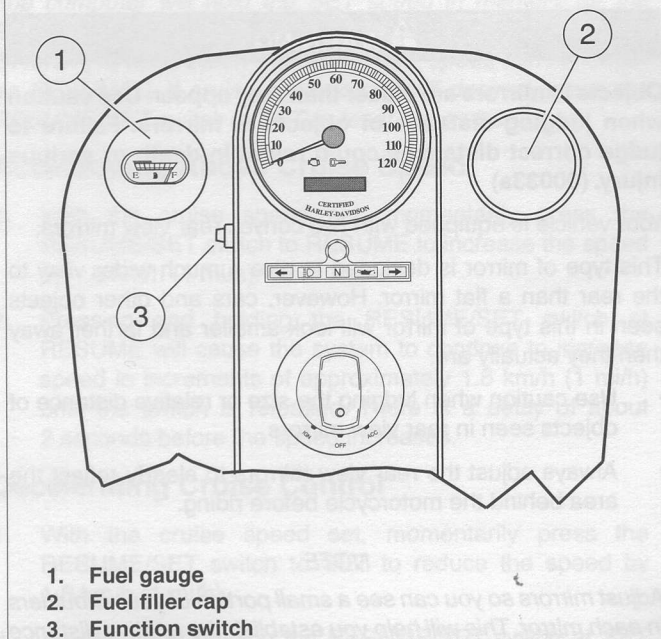

Figure 9. Fuel Tank: FLHR
- *See Figure 9. FLHR model fuel filler cap is located on the right side of the fuel tank. The cap on the left side is the fuel gauge and is not removable.*